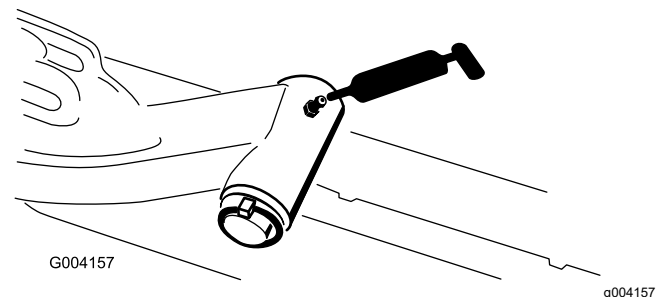

Figure 110
- Lift-arm-pivot shaft (1 each) (Figure 110)